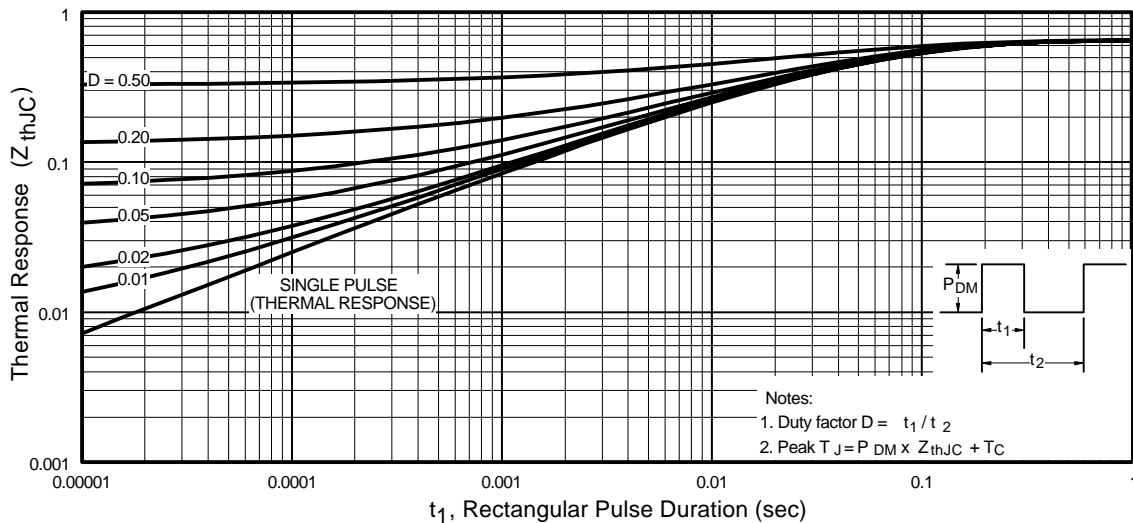

Fig 11. Maximum Effective Transient Thermal Impedance, Junction-to-Case
- ① Repetitive rating; pulse width limited by max. junction temperature. (See fig. 11)
- ② Starting $T_J = 25^\circ\text{C}$, $L = 7.8\text{mH}$